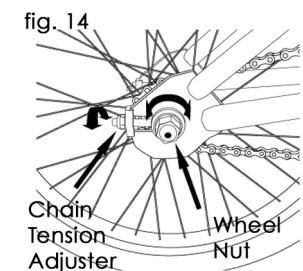

fig. 14
b. If the wheel is equipped with chain tension adjusters (fig. 14) loosen the nuts on the adjusters by turning both counterclockwise with a correctly sized open end or adjustable wrench an equal number of turns. This allows you to move the wheel as required by step (4) below.
c. If your wheel has chain tension adjusters (fig. 14), position the chain tension adjusters in the dropouts and, using a wrench to turn the adjuster nuts clockwise, pull the wheel back in the dropouts so that it is straight in the frame *and* the chain has about 1/4 inches of up-and-down play. Replace chain adjuster end caps if provided.